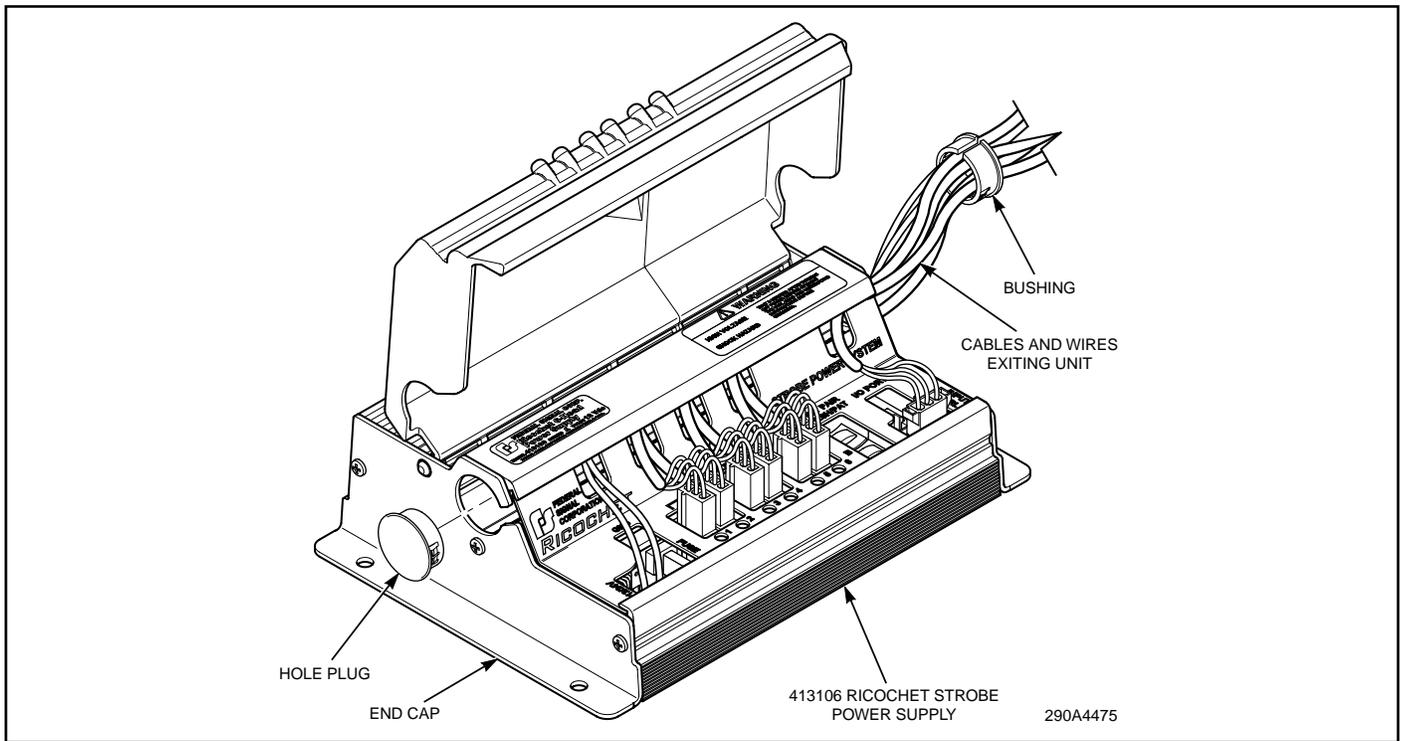

Figure 7.
16. Install the bushing in the end cap that has the cables and wires exiting and the hole plug in the other end cap. See figure 7.